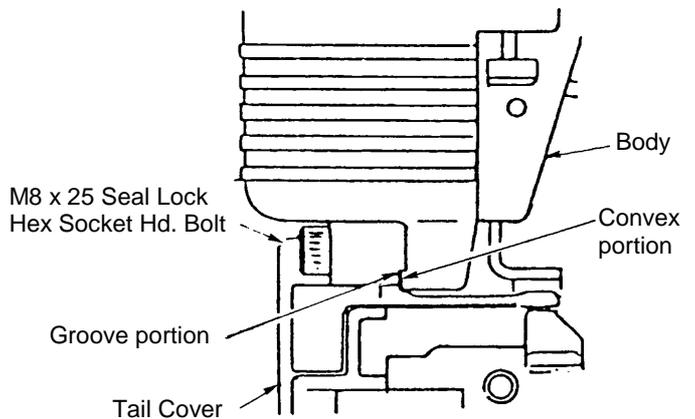

Fig. 19
- When reassembling the Tail Cover (34), carefully confirm that the grooved portion of the Tail Cover is properly seated on the projecting portion of the Body (24) before tightening the two M8 x 25 Seal Lock Hex Socket Hd. Bolts (33) to their designated torque (410 ± 10 kg-cm [29.7 ± 7 ft-lb]). (Refer to Fig. 19)
- The two M8 x 25 Seal Lock Hex Socket Hd. Bolt (33) must be replaced with new ones once they are loosened.
(2) Disassembly and Reassembly of the Nail Guide Section: